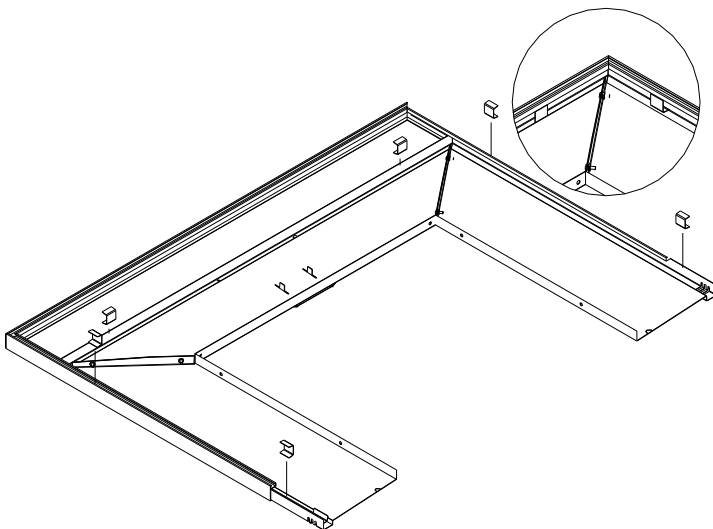

Figure 2.9c
5. Secure trim to faceplate using "U" shaped clips. (see Figure 2.9c)